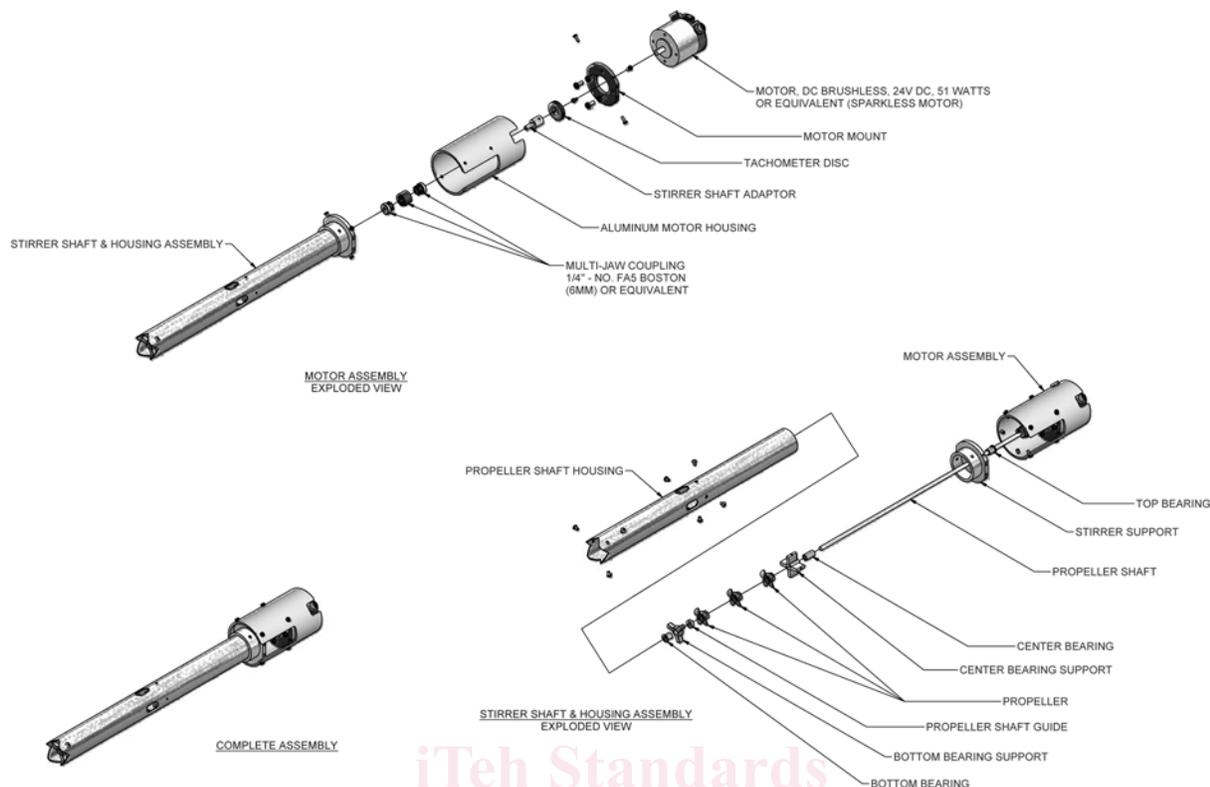

FIG. 1 Stirrer
5.1 *Stirrer*, constructed from parts shown in ~~Fig. 1~~ Figs. 1 and Fig. 23.
5.5 *Centrifuge Tubes*, long-form, 195 to 203 mm (8 in.) as described in Fig. 1 of Test Method D1796.